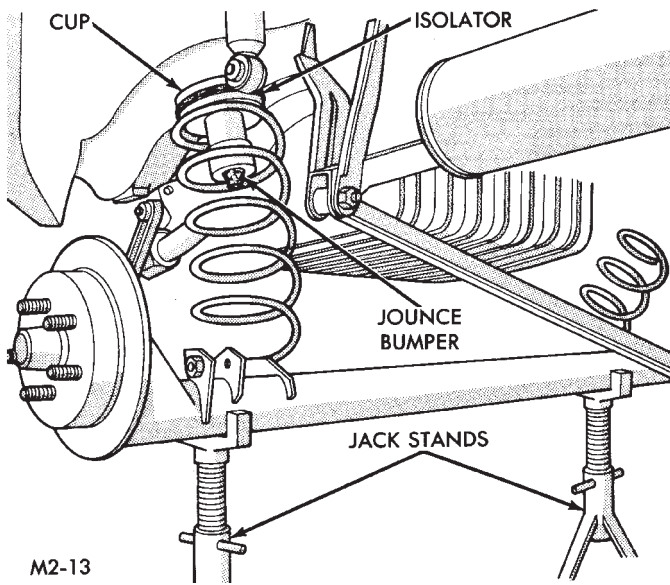

Fig. 5 Install Springs and Isolators
(3) Install springs and isolators (Fig. 5).